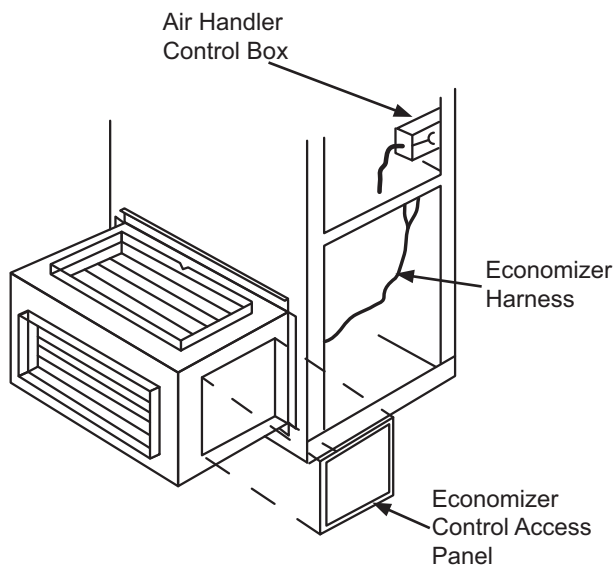

Fig. 9 — Economizer Wire Routing
1. Remove the economizer control access panel and locate the actuator wiring harness. See Fig. 9.
The economizer controller used on electromechanical units is a Siemens POL 224 which is located in the economizer accessory. See Fig. 17 for button description of the POL 224 controller. See the Installation Instruction for the base unit location of the control box access panel. For economizer wire routing, refer to Fig. 9.